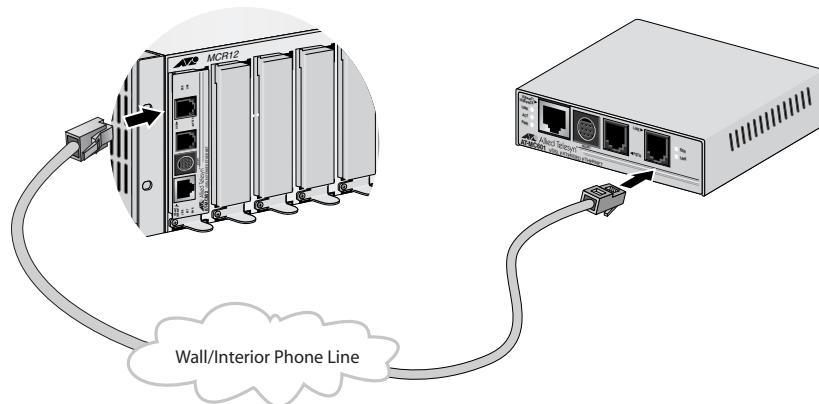

Figure 11 VDSL Line to Wall/Interior Phone Line
- Next, connect a telephone line cable from the VDSL Line port to the wall/interior telephone line, as shown in Figure 11, so that the Subscriber unit can communicate with the Provider unit.